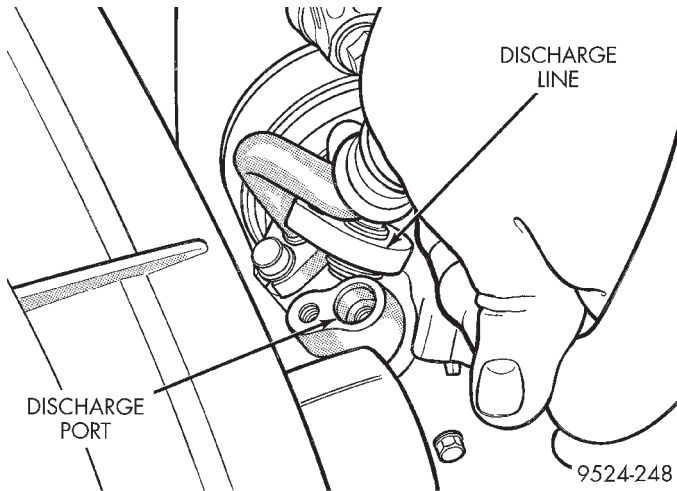

Fig. 34 Line at Compressor
(4) Disconnect line at A/C compressor (Fig. 34). Remove discharge line.